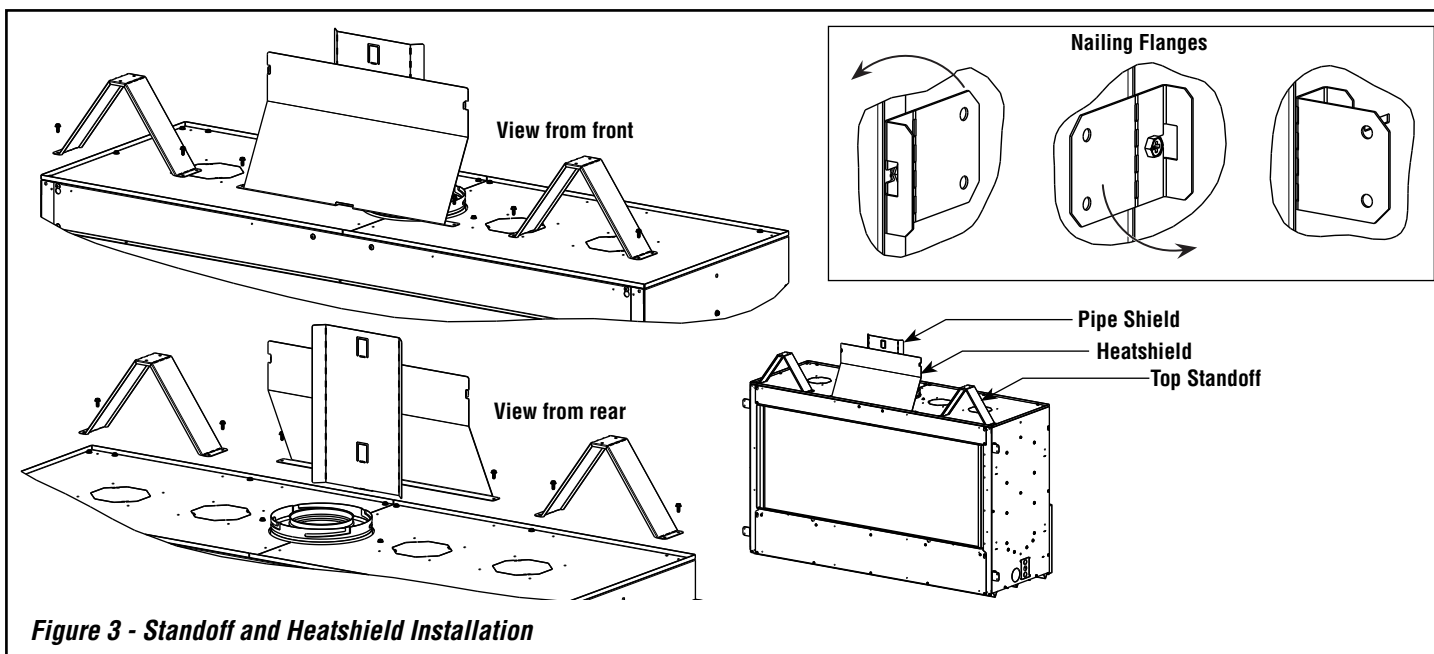

Figure 3 - Standoff and Heatshield Installation
- a. Identify top standoffs shipped flat on top of the fireplace (*Figure 3*).
2. Locate (4) nailing flanges on sides of fireplace. Loosen mounting screw and rotate 180° forward, then bend outward so that it is flush with the front of the fireplace (*Figure 3*).
3. Using supplied screws, install pipe shield with mounting tab toward front of fireplace, and vertical bends toward vent collar (*Figure 3*).
4. Install heatshield with supplied screws (*Figure 3*).